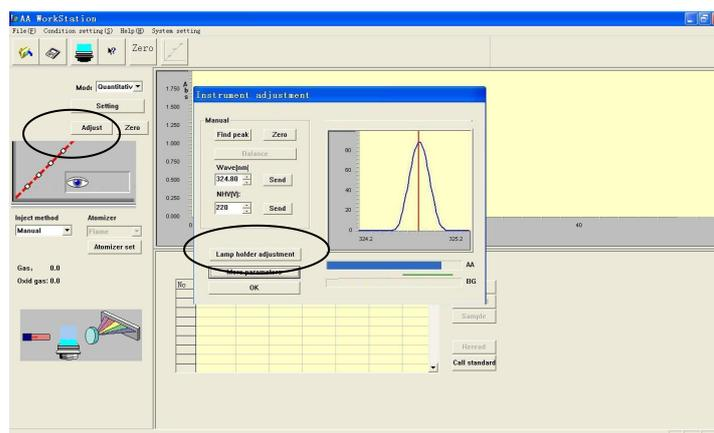

Figure 6-12
3. Press "Instrument adjustment" to show a dialog as shown in Figure 6-12.